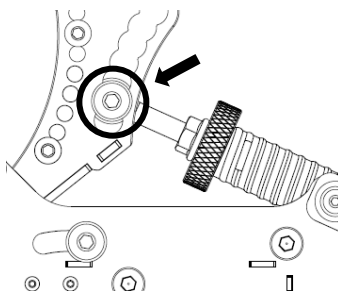

fig. 7 The first stage of changing the angle of the pedal lever.
4. tighten the screws securing the sleeve of the spring mechanism using H5 Allen keys (see Fig. 7).